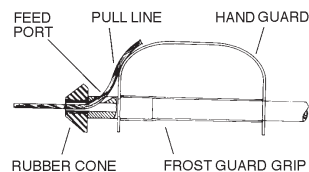

Figure 10
- Thread the pull line through the seal-off feed port (Refer to Figures 10, 11, 12 and 13).